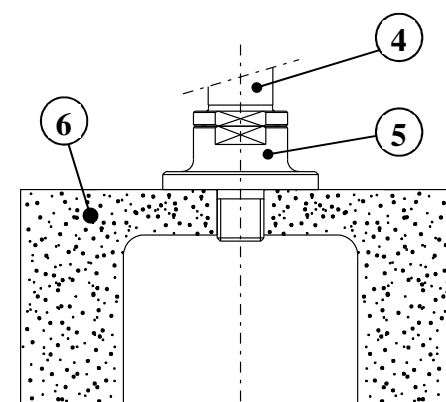

Fig.3
- **assembly Fig.3** → Lock in place the wheel Item ⑥, then unscrew the wheel-holder plate Item ⑤ (23 open-end wrench).
- **assembly Fig.3** - Lock in place the wheel Item ⑥, then screw on the wheel-holder plate Item ⑤ (23 open-end wrench).